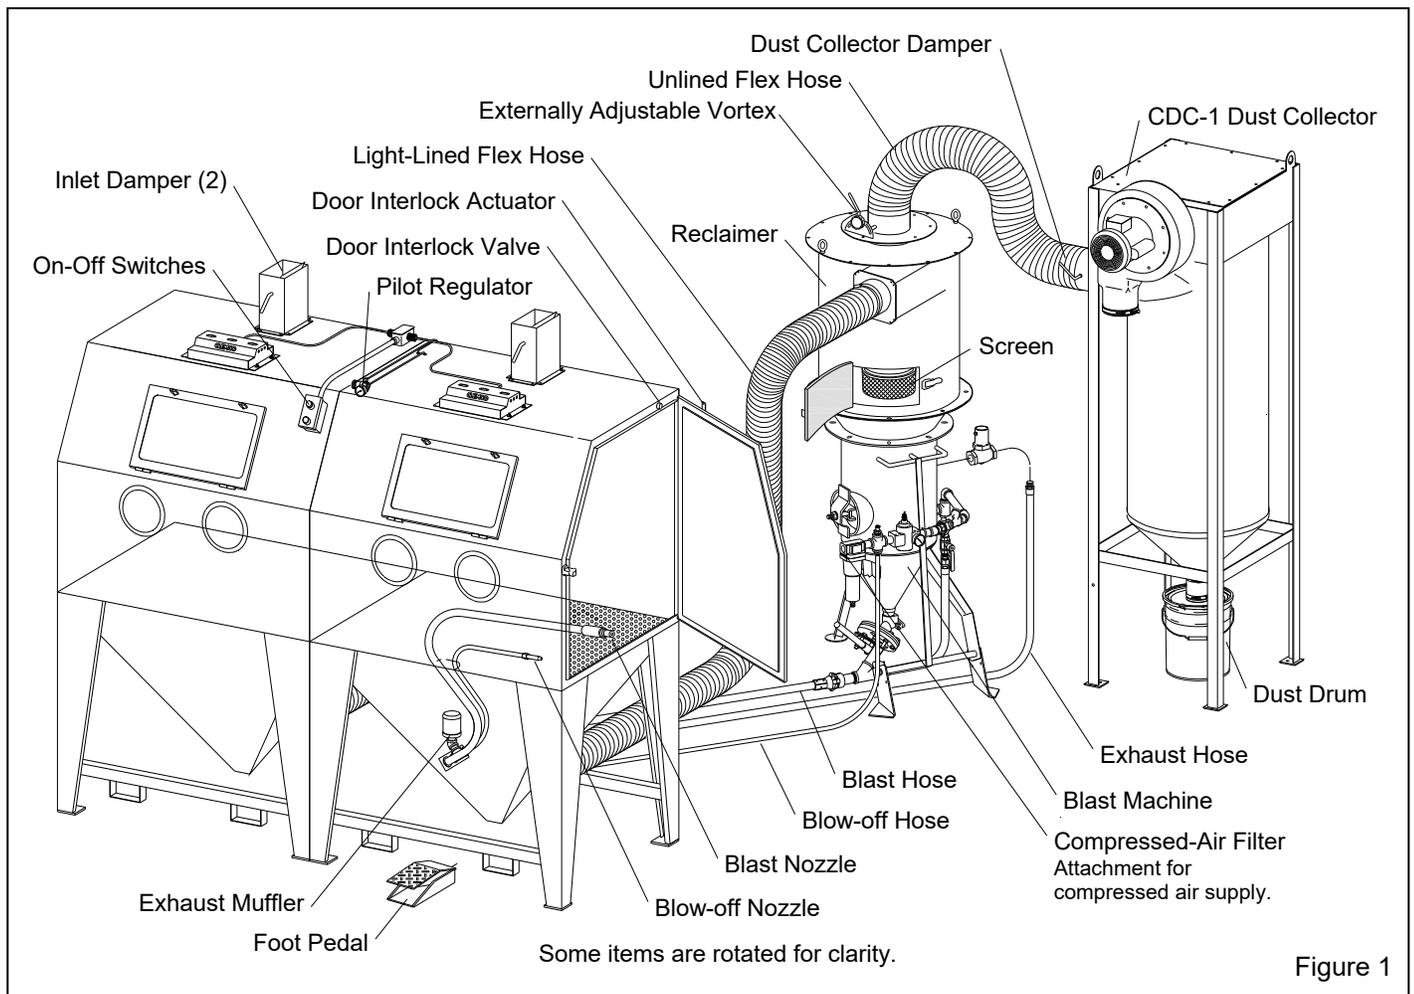
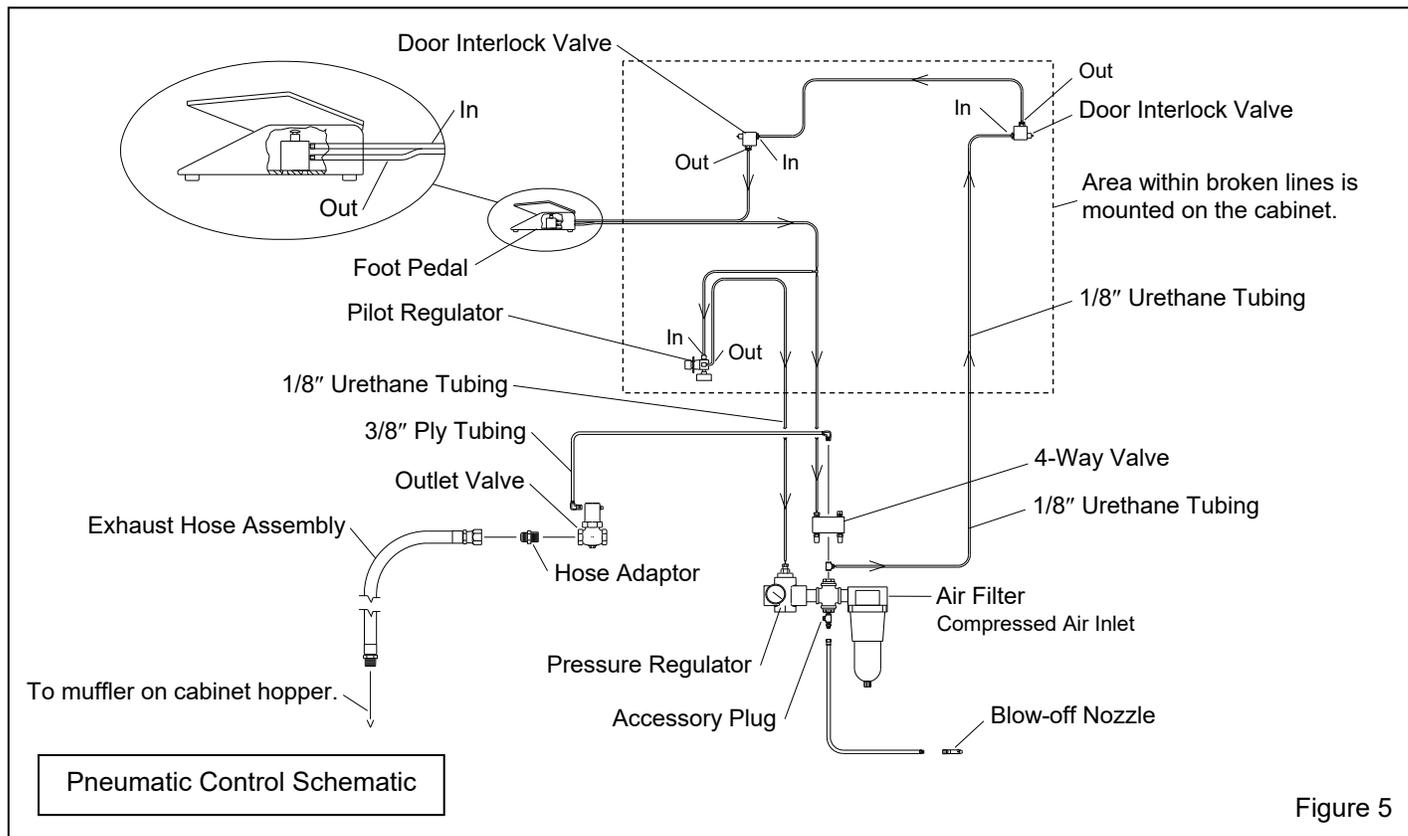

Figure 1
Figure 5
1.7.1 CDC-1 Dust Collectors: Shown in Figure 1, the collector is available in 900 cfm models. The single filter cartridge is cleaned by using a manually controlled pulse of compressed air. Dust collects in a 5-gallon dust drum, which must be frequently emptied. Refer to manual number 28225.
2.1.1 Refer to Figure 1 (and Figure 2 for optional RPC-2 reverse-pulse collector) for the general arrangement and Figure 5 for the control line schematic. Select a location where compressed air and electrical service are available. The cabinet location must comply with OSHA and local safety codes. Allow for full access to all doors and service areas and for efficient handling of large parts. Provide enough clearance in front of the dust collector to remove the dust drawer without tipping. Ideally, locate the blast machine directly behind the cabinet with the blast hose connection toward the
2.5.1 Attach the 1/2" blow-off hose coming from the cabinet hopper, to the compatible fitting on the blast machine piping, between the air filter and pressure regulator. Refer to the schematic in Figure 5.
2.8.1 Uncoil the brown 1/8" urethane control tubing. From the cabinet. The end of each tubing is numbered 1, 2 or 3. Connect the tubing to the adaptor with the corresponding number on the top of the pressure regulator, piping, and 4-way air valve. Refer to the schematic in Figure 5 to confirm the connections.